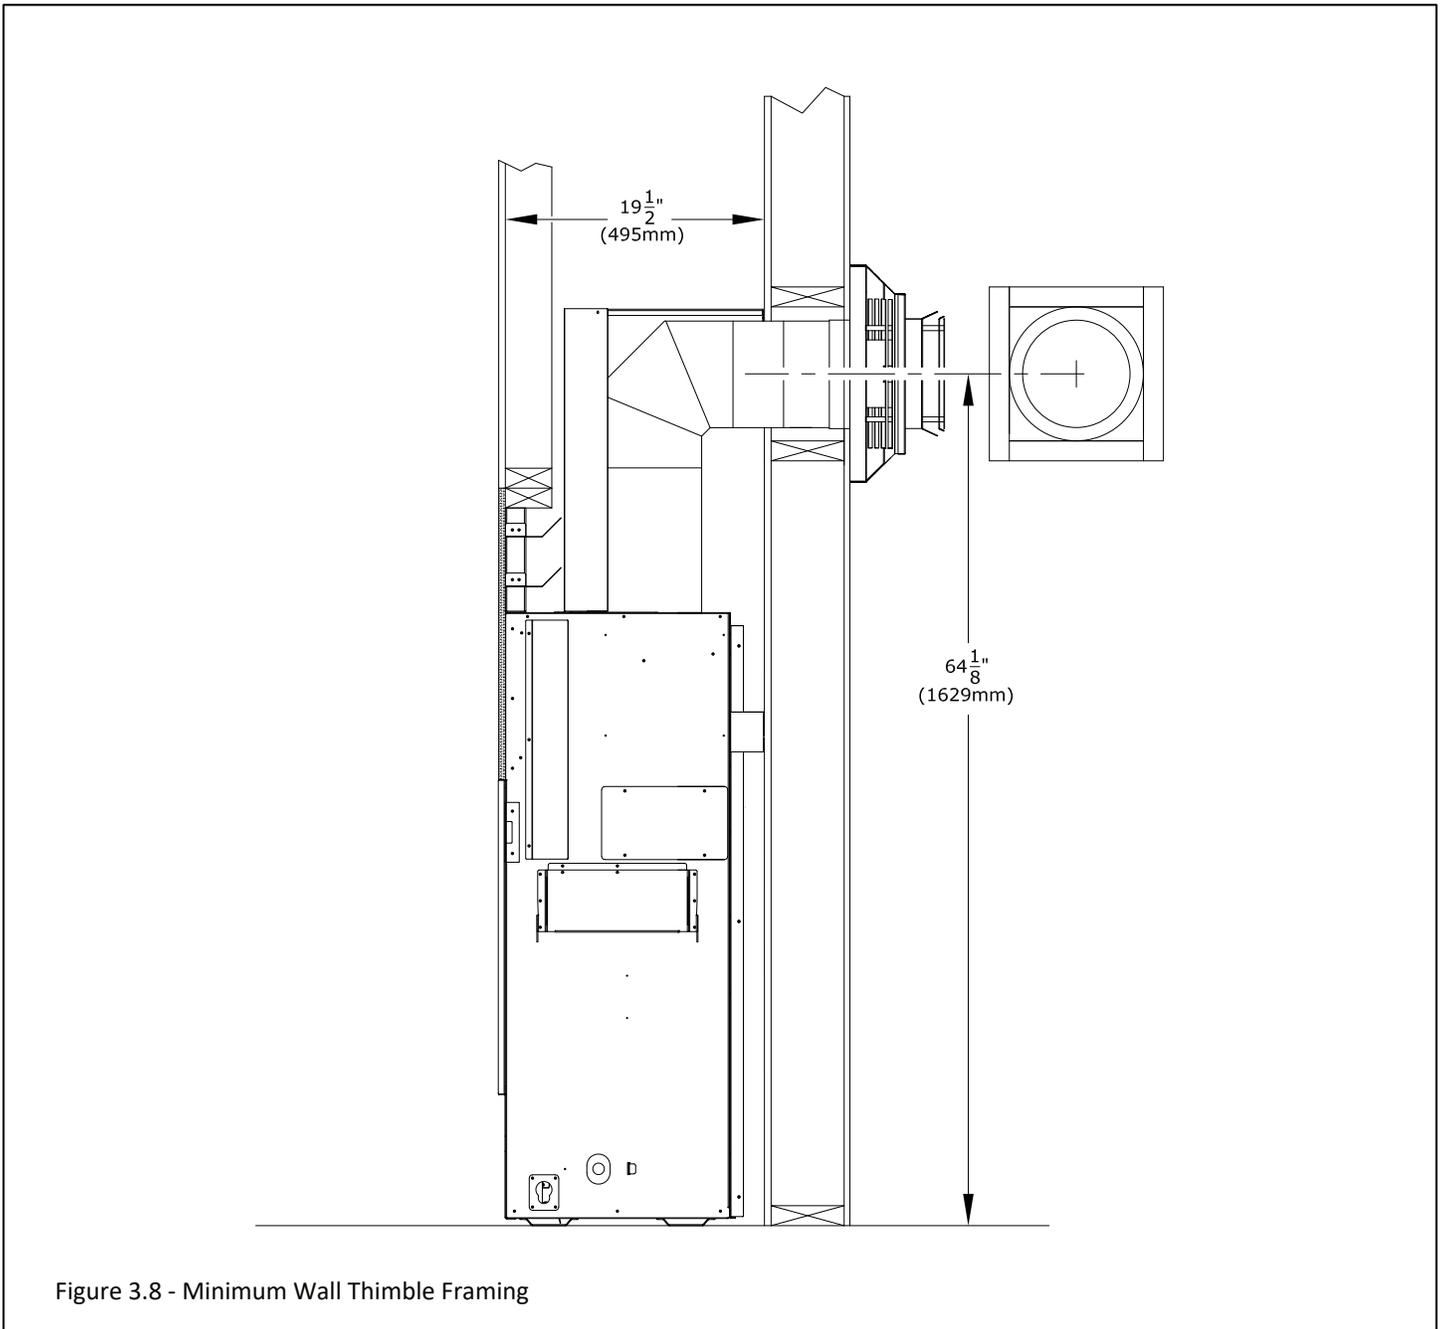

Figure 3.8 - Minimum Wall Thimble Framing
Follow FIGURE 3.8 below for minimum rough-in dimensions.
1. Measure from floor level of the fireplace to the center of where the vent pipe will penetrate the wall. The dimension in Figure 3.8 is used with Simpson DuraVent vent pipe.